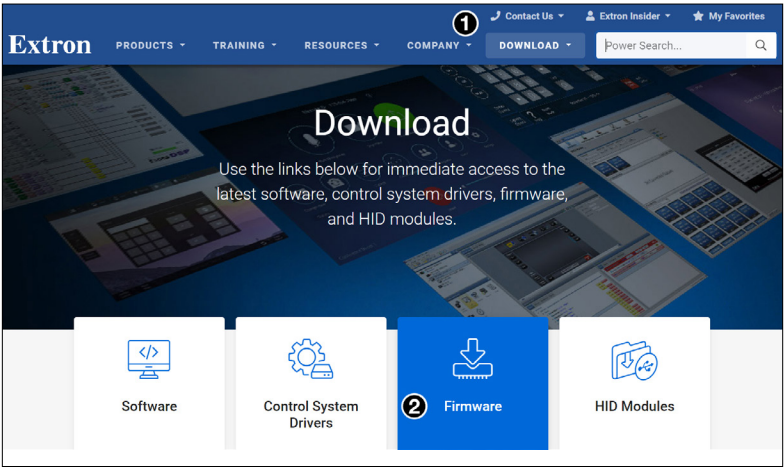

Figure 18. Firmware Download Center
2. Go to www.extron.com, click **DOWNLOAD** (see figure 18, ❶) and then click **Firmware** (❷).